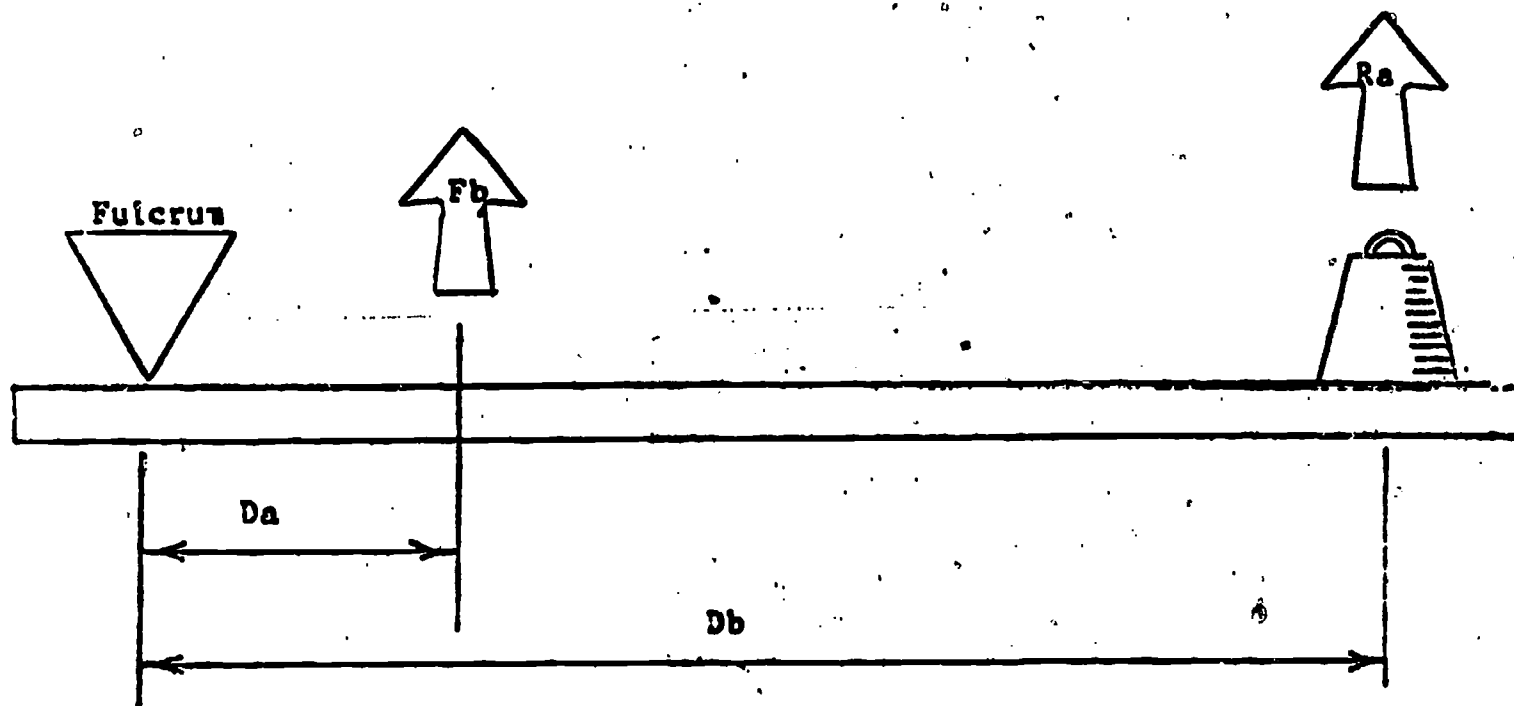

Figure 3 Third-class lever: force, distance, and resistance relationships.
2. Construct the cell modules by soldering the positive side of one cell to the negative terminal of a second cell. Next, solder the positive side of the second cell to the negative terminal of the third cell (Fig. 3).